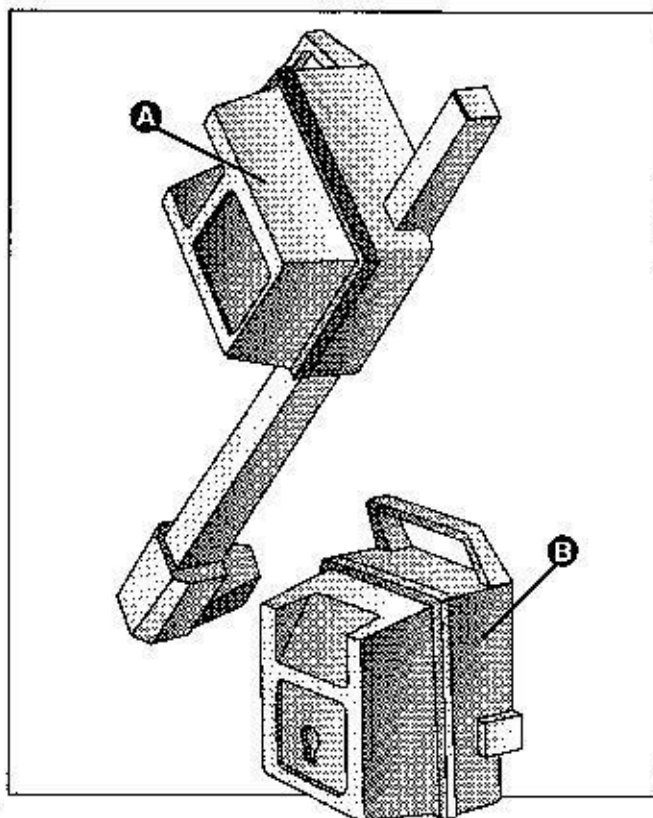

Figure 1-2
See Figure 1-2. Wheel Units contain sensors which measure wheel position. Front wheel units (A) are mounted on front wheels; rear wheel units (B) are mounted on rear wheels. During alignment, wheel units are mounted to wheel clamps attached to the vehicle's wheels (see next section). Use wheel units as a set. Do NOT use wheel units from another alignment machine.